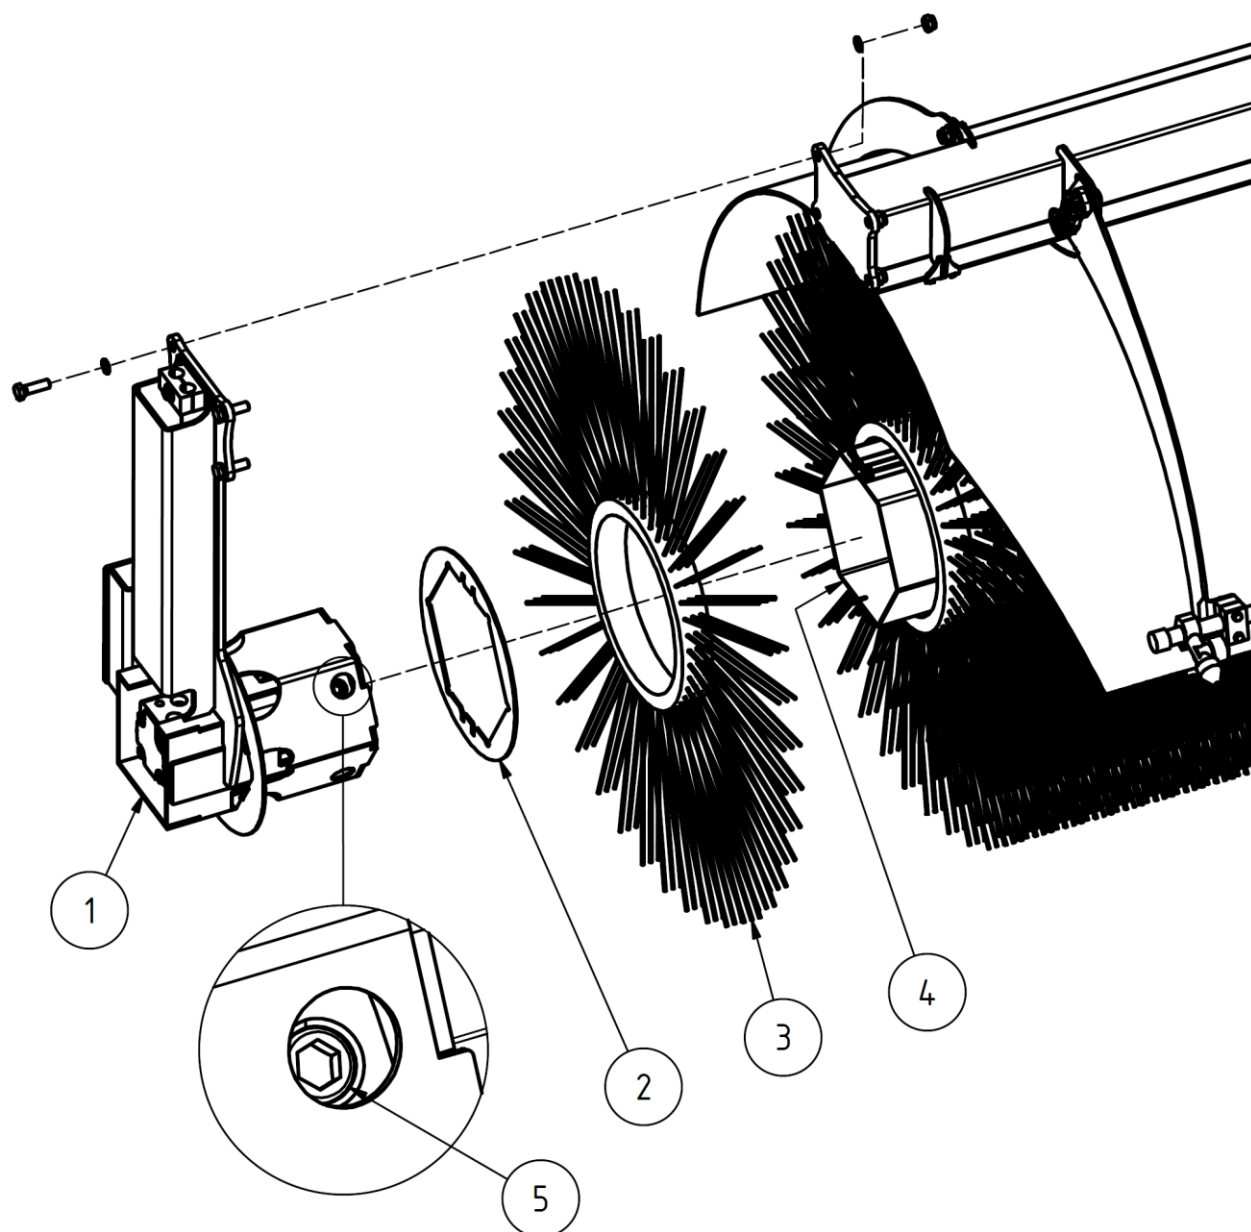

Figure 15 – Removal of spindle and bristles
Bristles are details wearing during operation, which need to be replaced. Bristles are located on the brush spindle. To replace the spindle and/or the bristles, motor holder (1, Figure 15) shall remove from one end of the brush. Now the spindle (4) can be removed with bristles. To remove bristles from the spindle, remove the locking disc (2). When re-installing bristles and/spindle to the brush, check visually before replacement of motor holder that radial bolts of the clutch (5) are correctly fixed and re-fix them with strong thread glue, if necessary.